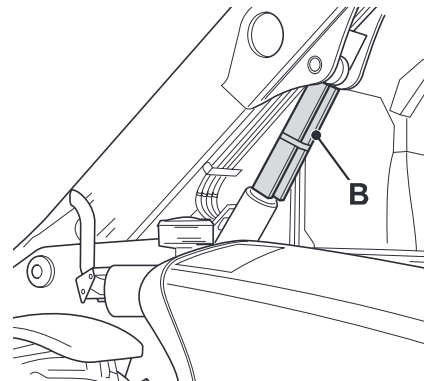

Fig 181.
- Place the strut **A** around the lift ram piston rod. ⇒ Fig 181. \(□ 193\). Secure it in position.